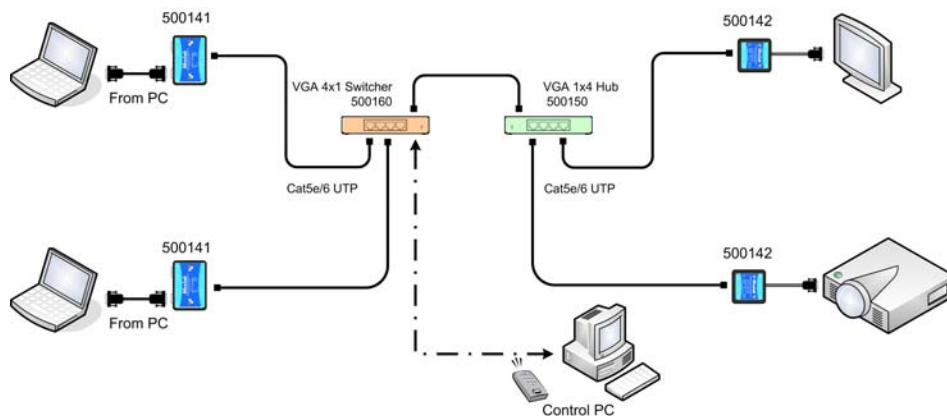

Figure 5: Cascading Illustration
In order to distribute from one (1) of up to four (4) VGA sources to more than one (1) display, the VGA 4x1 Switcher may be cascaded with up to three (3) levels of the VGA 1x4 Distribution Hub. In other words, any one of up to four (4) VGA sources may be selected to feed up to sixty-four (64) displays. For illustration purposes, Figure 5 shows one (1) level of cascading for up to four (4) displays.